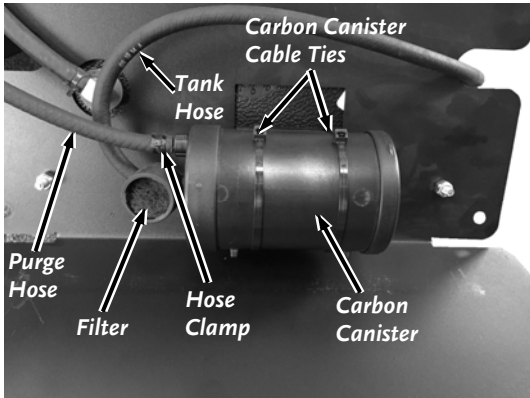

Figure 38
2. Cut the two Cable Ties that are securing the Carbon canister to the Gas Tank Plate using Wire Cutters (**Figure 38**).